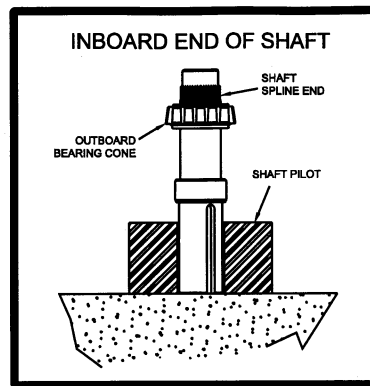

Figure 6.3.4.1 Placement of Outboard Bearing Cone on Shaft
4. Place the outboard bearing cone squarely on the inboard end of the shaft with the smaller diameter of the bearing facing inboard (reference Figure 6.3.4.1).